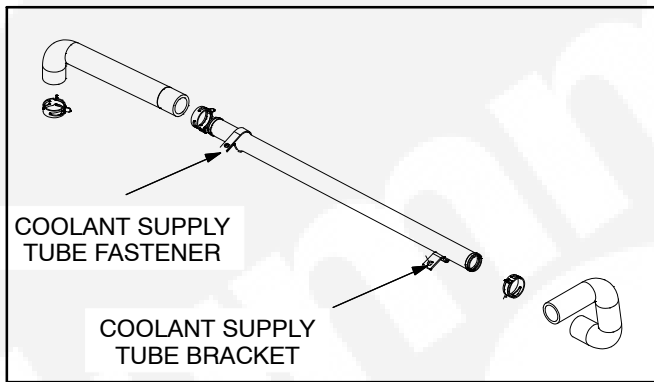

FIGURE 5-4. COOLANT SUPPLY TUBE
1. Remove the coolant supply tube fastener. See Figure 5-4.
2. Loosen the screw in the coolant supply tube bracket attached to the tube. See Figure 5-4.